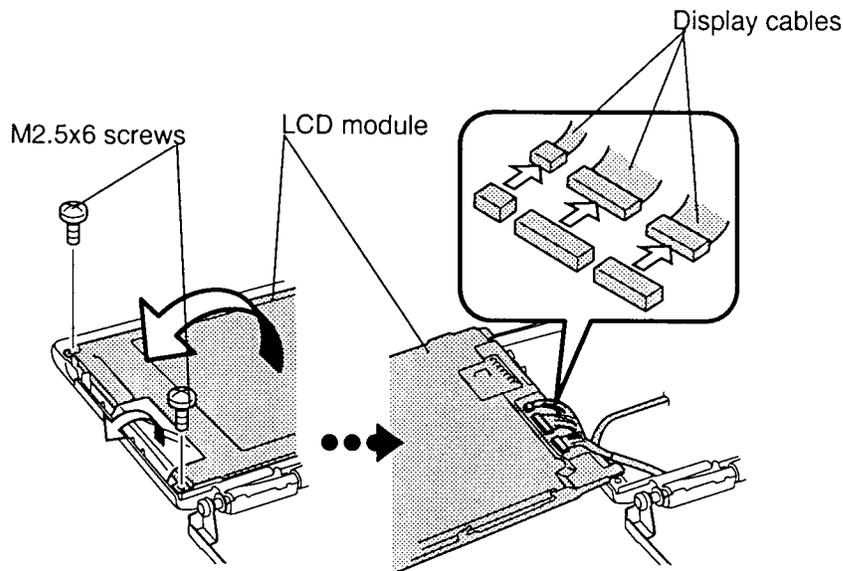

Figure 4-30 Removing the LCD module
To remove the T2400CS's color LCD module, follow the steps below and refer to figure 4-30.
3. Remove the two **M2.5x6 screws** securing the **LCD module** to the LCD cover (figure 4-30).
4. Carefully rotate the **LCD module** from right to left out of the display cover and disconnect the **three display cables** from the LCD module (figure 4-30).
To install the T2400CS's LCD module, follow the steps below and refer to figure 4-30.
1. Connect the **three display cables** to the LCD module, and carefully rotate the LCD module to the LCD cover (figure 4-30).
2. Secure the two **M2.5x6 screws** on the LCD module (figure 4-30).